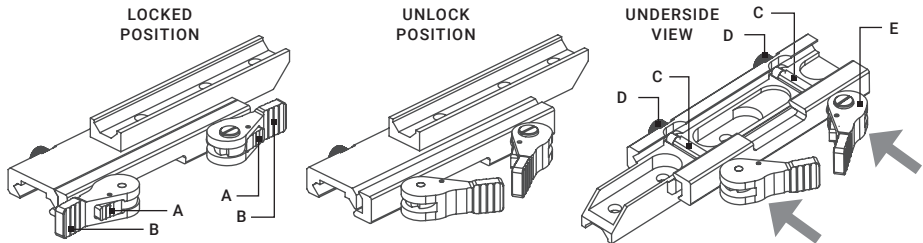

FIGURE 2-3. MOUNT
1. Unlock the clamping device of the scope mount by pushing down on the lever holders (A, see Figure 2-3) and unlocking the levers (B).
2. Install the scope on the Picatinny/ Weaver rail so that the stops (C, see Figure 2-3) slides into the transverse slots on the rail.
3. Affix the scope to the rail by locking the levers (B, Figure 2-3).
2. With the clamping device unlocked (as shown in Figure 2-3), push the cam (E) towards the arrow, which will cause the nut (D) to slide out of its hole.
3. To tighten/ loosen the clamping device, push down on the cam (E) and turn the nut (D) CW/ CCW respectively, in one-two increments (see note below). Much like when the cam (E) is released, backward-moving springs will cause the nut (D) to slide back into its hole.